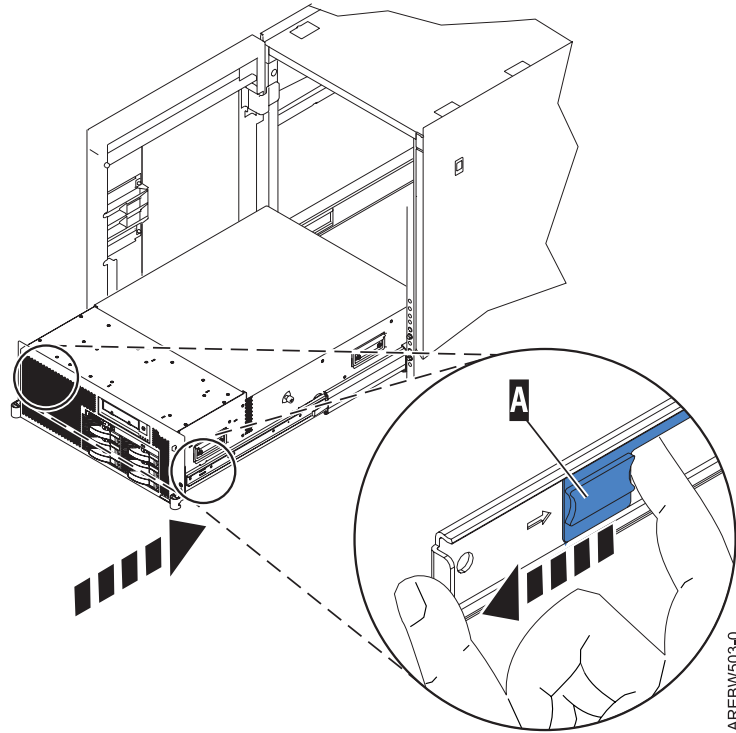

Figure 29. Inner rail extended
11. After the system is firmly in place, simultaneously press the safety latches and push the system unit into the rack as shown in Figure 29 on page 35.